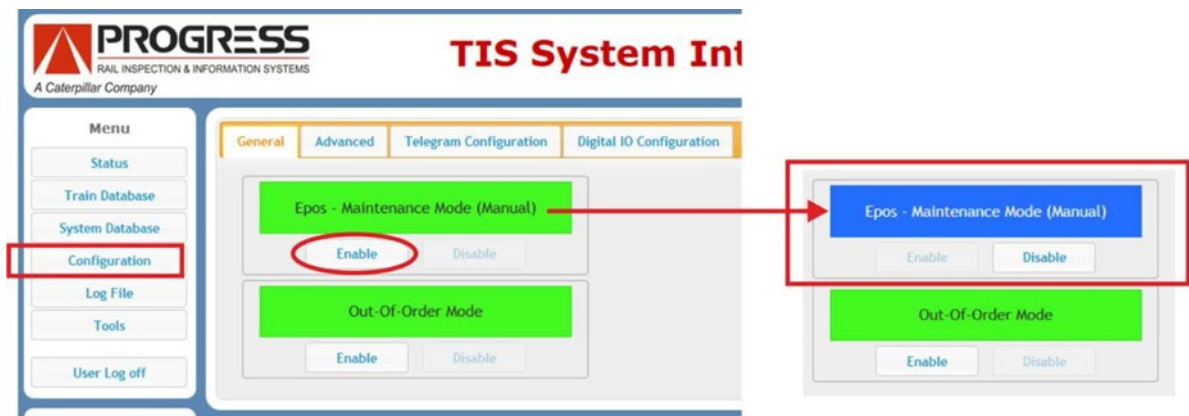

Figure 4 - Maintenance mode in FUES-EPOS GUI
- b) Click on menu item “Configuration” See Figure 4.